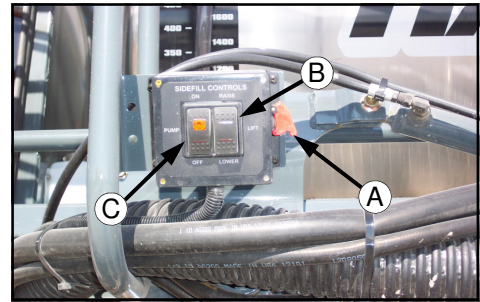

FIG 66-1
INDUCTOR OPERATION- With the engine running and the parking brake set, flip the lock switch up (fig.66-1,item A). Lower the inductor assembly with the inductor control box switch (fig. 66-1, item B). If filling with the suck-on attachment, leave the engine running. If filling with the push-on attachment, turn the engine off.
*To activate “suck-on” pump, flip the inductor control switch up (fig. 66-1, item C). This will start the pump.